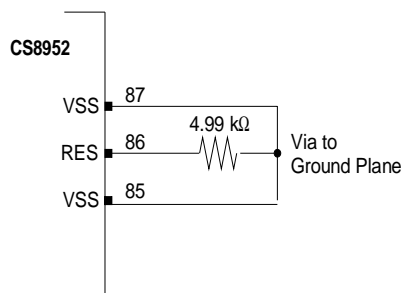

Figure 8. Biasing Resistor Connection and Layout
- The 4.99k reference resistor should be placed as close to the RES pin as possible. Connect the other end of this resistor to the ground plane using a via. Connect the adjacent VSS pins (pins 85 and 87) to the grounded end of the resistor forming a shield as illustrated in Figure 8.